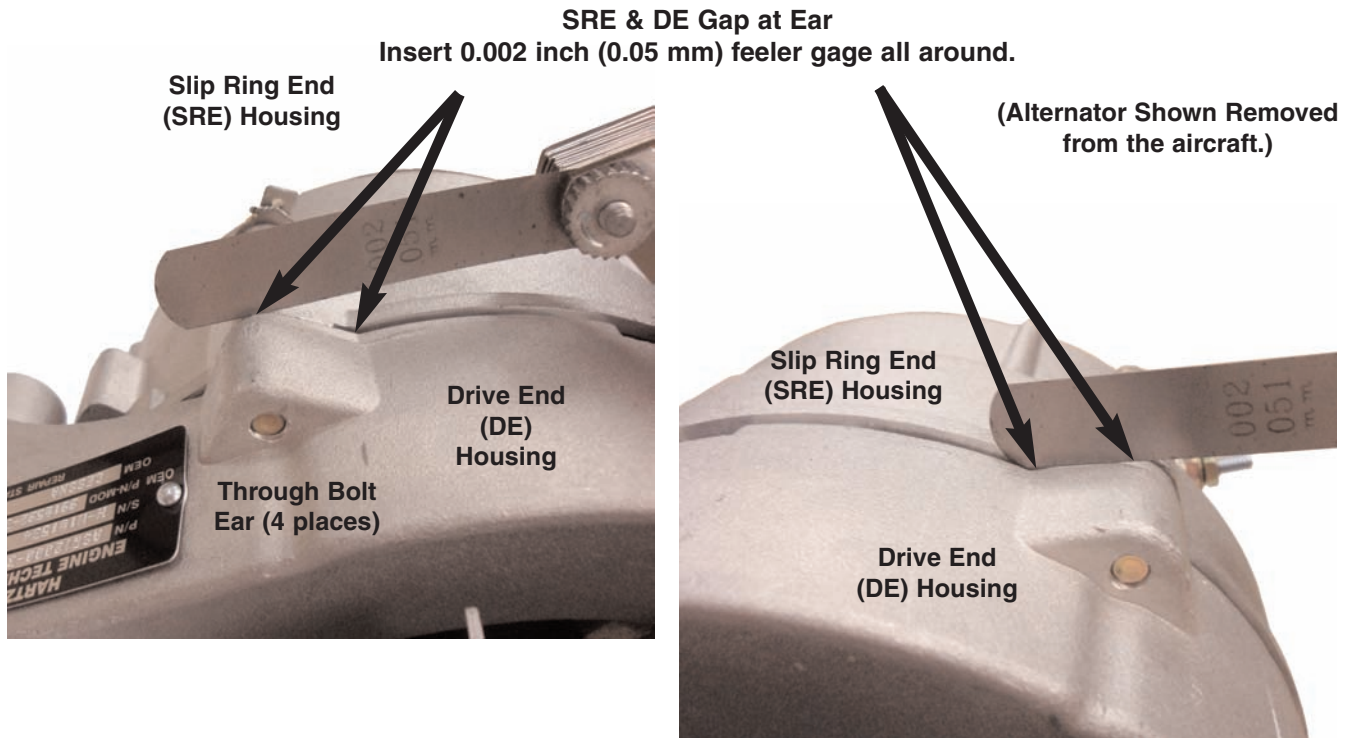

Figure 2 - SRE & DE Housing Shown With Interference at Ear.
- (a) Figure 2 shows an unacceptable feeler gage check with no gap at each ear.
- (2) If the 0.002 inch (0.05 mm) feeler gage will not fit at any location around the ear as shown in Figure 2, the alternator must be removed.